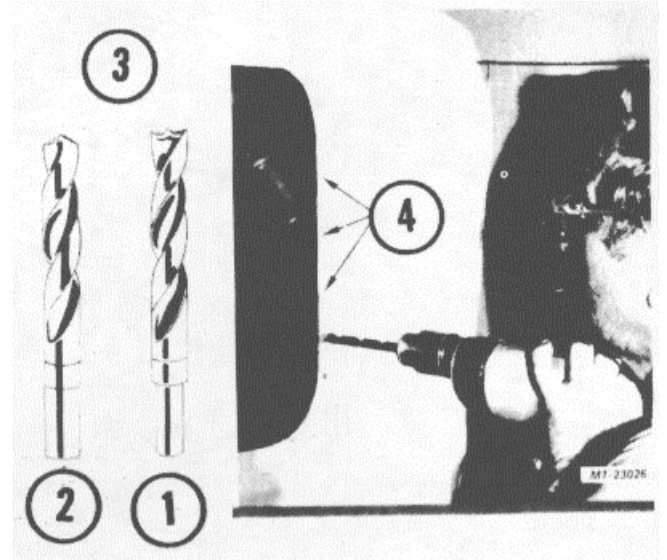

Fig. 37. Removing Cob Inner Corner Panel
The actual side panel removal requires the drilling out of spot welds which attach the side panel to other panels of the cab. Sheet metal drill bits should be used. These are drill bits, the ends of which have been ground for this special purpose. An example of a sheet metal drill bit as compared to a regular drill bit is shown in Fig. 37. When spot welds have been removed, a pneumatic chisel is then used to open seams which have been clinched together.
1. For access to back panel joint, remove cab inner corner panel. Remove trim strip between corner panel and inner roof panel and drill out spot welds (Fig. 37) around panel. Separate corner panel from back panel, inner roof panel and side panel assembly.